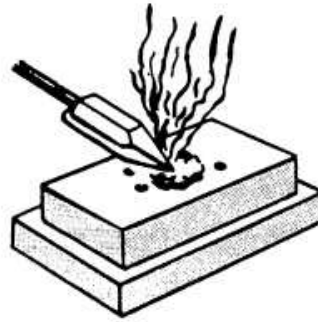

Figure 3 - Tinning a copper (solder placed on cake of sal ammoniac).
6. Rub each filed side of the copper back and forth across a cake of sal ammoniac, as shown in figure 3.